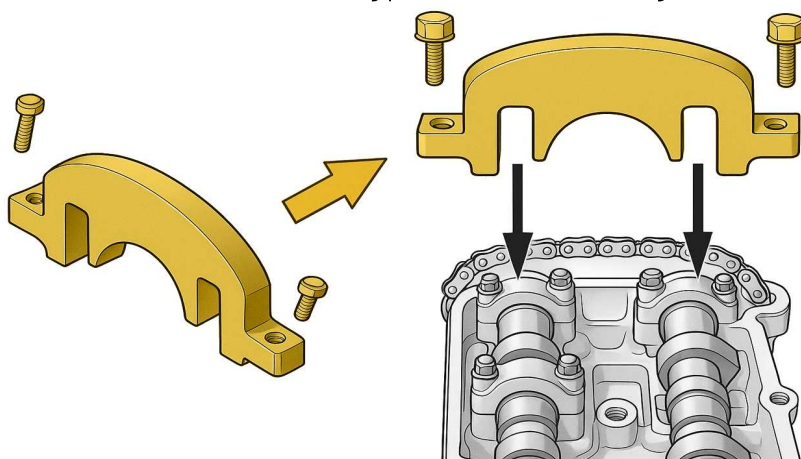

Fig. 1
- Used to lock the camshafts in their timing position, as shown in Fig. 1.